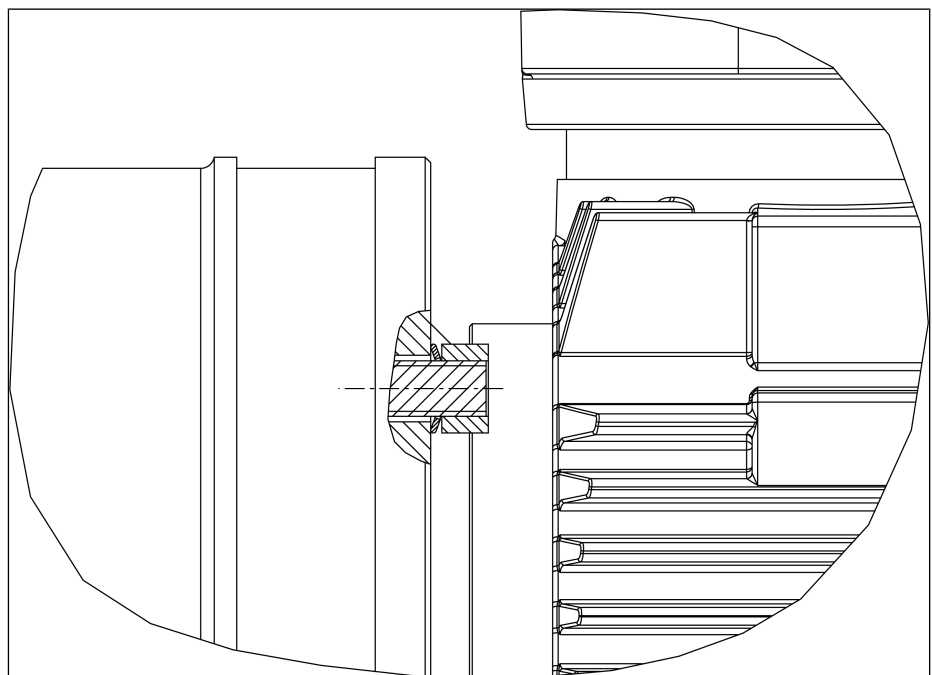

Fig.11 Alignment of the ribbed disk (2)
3. Check whether the flange surface of the motor (3) and the flange surface of the compressor housing (7) lie properly on top of one another.
4. Push the four ribbed disks (2) onto the stud bolts (8).
i Make certain that the inner diameter of the ribbed disk (2) lies against the nut (1) and the outer diameter lies against the motor flange (3) (see Fig. 11).